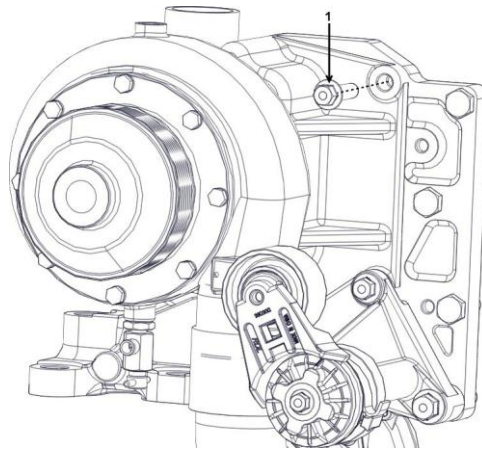

Figure 16. Right-Hand Water Pump/Engine Mount Bolt
2. Insert and torque down the top right bolt to assist in the installation process. (Refer to Figure 16.)